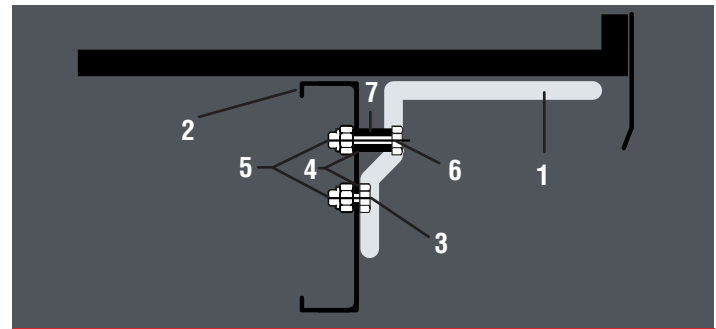

Fig 6 Mounting the jack brackets
- 9 Position the jack mounting bracket (Fig 6/item 1) with the short side on the chassis member (Fig 6/item 2) in such a way that the long side is positioned against the floor of the caravan.
- 10 Fit M13 washers (Fig 6/item 4) onto setscrews.
- 11 Insert M12x25 (Fig 6/item 4) and M12x45 (Fig 6/item 6) setscrews from the outside.
- 12 Fit spacer (Fig 6/item 7) onto longer bolt before fitting to chassis.
- 13 Fit M12 self-locking nuts (Fig 6/item 5) and torque to 86 Nm.